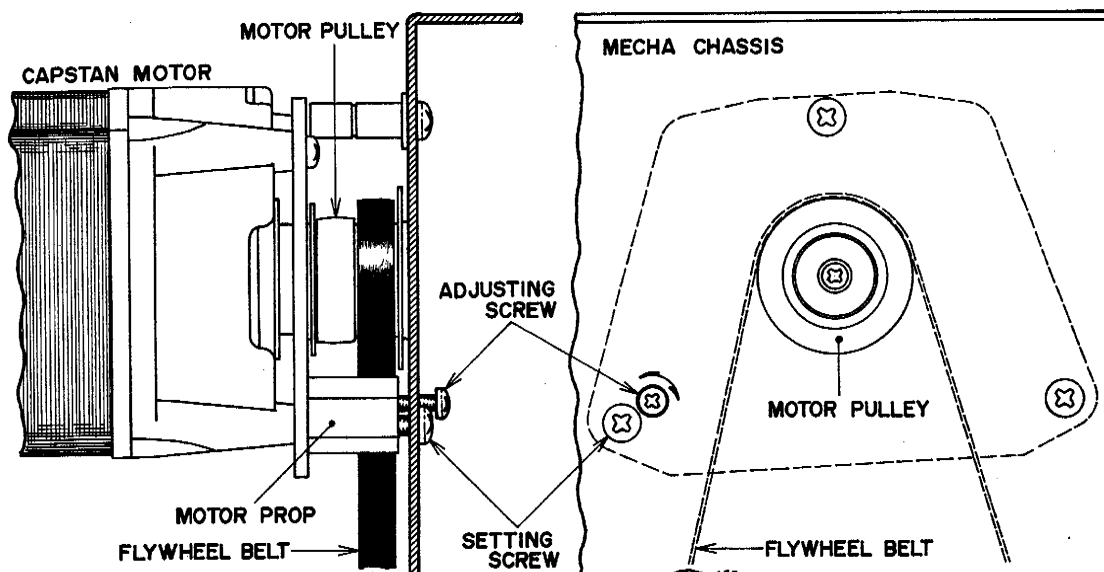

Fig. 17
- 1) With capstan motor revolutions operating at Rev. mode, loosen setting screw and turn flywheel belt position adjustment screw until the flywheel belt comes to the center of the motor pulley. (Refer to Fig. 17)